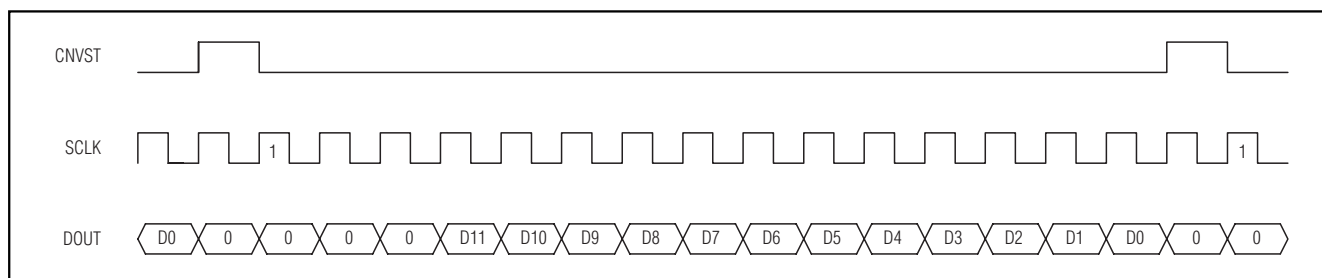
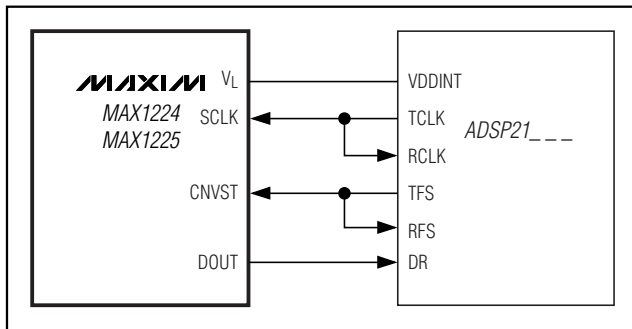

Figure 17. DSP Interface—Continuous Conversion
Figure 19. Interfacing to the ADSP21\_---
The MAX1224/MAX1225 can also be connected to the TMS320C54\_ by using the data transmit (DX) pin to drive CNVST and the CLKX generated internally to drive SCLK. A pullup resistor is required on the CNVST signal to keep it high when DX goes high impedance and 0001hex should be written to the DXR continuously for continuous conversions. The power-down modes may be entered by writing 00FFhex to the DXR (see Figures 17 and 18).
The MAX1224/MAX1225 can be directly connected to the ADSP21\_ \_ \_ family of DSPs from Analog Devices, Inc. Figure 19 shows the direct connection of the MAX1224/MAX1225 to the ADSP21\_ \_ \_ . There are two modes of operation that can be programmed to interface with the MAX1224/MAX1225. For continuous conversions, idle CNVST low and pulse it high for one clock cycle during the LSB of the previous transmitted word. The ADSP21\_ \_ \_ STCTL and SRCTL registers should be configured for early framing (LAFR = 0) and for an active-high frame (LTFS = 0, LRFS = 0) signal. In this mode, the data-independent frame-sync bit (DITFS = 1) can be selected to eliminate the need for writing to the transmit-data register more than once. For single conversions, idle CNVST high and pulse it low for the entire conversion. The ADSP21\_ \_ \_ STCTL and SRCTL registers should be configured for late framing (LAFR = 1) and for an active-low frame (LTFS = 1, LRFS = 1) signal. This is also the best way to enter the power-down modes by setting the word length to 8 bits (SLEN = 1001). Connect the  $V_L$  pin to the ADSP21\_ \_ \_ supply voltage when the MAX1224/MAX1225 are operating with a supply voltage higher than the DSP supply voltage (see Figures 17 and 18).